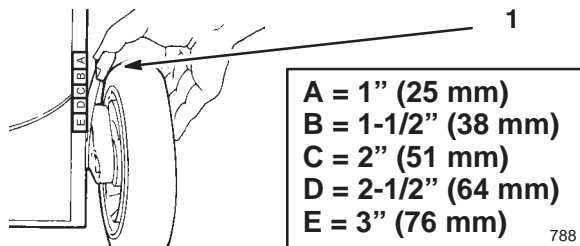

Figure 9
1. To change the cutting height, pull the adjusting lever toward the wheel and move it to the desired position (Fig. 9).